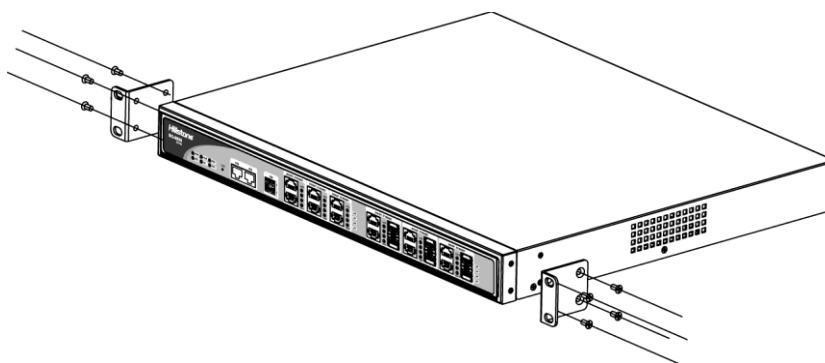

Figure 3-2: Installing the Rack-mounting Ears (1U Chassis as example)
Step 1: Attach rack-mounting ears to the left and right side panels of the chassis respectively, and then fasten the rack-mounting ears with suitable screws, as shown in Figure 3-2.